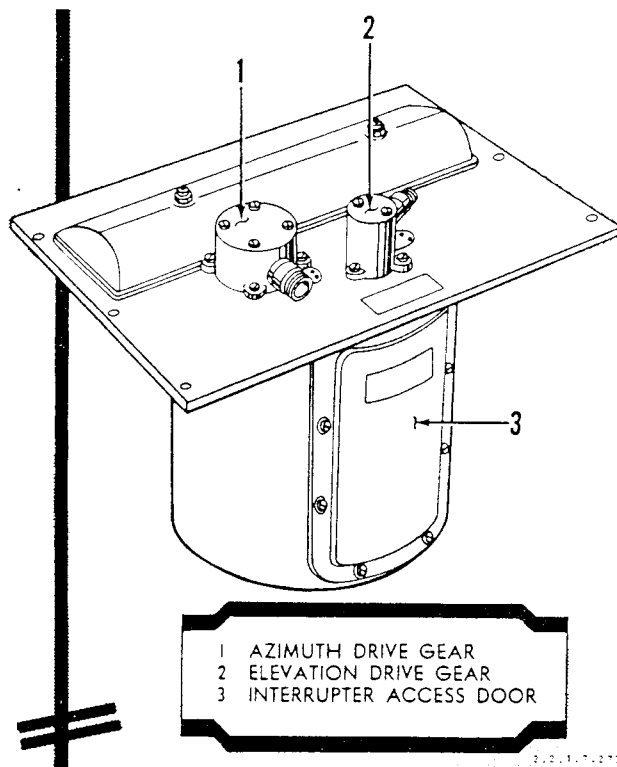

Figure 2-21 Fire Interrupter and Collector Ring Assembly
2-57. COLLECTOR RING ASSEMBLY. Control current is transmitted to the rotating turret by means of a collector ring assembly (figure 2-21), which consists of 26 slip rings, a top plate, brush holders, brushes and the necessary windings. Reverse gearing works against the drive gearing, causing the collector case and brushes to stand still while the slip rings rotate with the turret. The bottom plate of the collector case has one electrical connector, which is the only external electrical connection to the turret. The top plate has electrical connectors to supply power to other turret units.
2-58. FIRE INTERRUPTER ASSEMBLY. Interruption of machine gun fire in areas of wing and empennage surfaces and propeller arcs is accomplished by a fire interrupter assembly (figure 2-21) built around the collector ring. The interrupter consists of a drum with cams (patterns of the areas to be protected) on the outer surface and a moving support which carries two switches. One switch is wired in series with the firing solenoid of each gun. The switches are arranged to move with the cam drum in direct proportion to the movement of the guns in azimuth and elevation. This makes it possible to interrupt individually the fire of each gun.
- Remove access door on collector and interrupter assembly. (See figure 2-21.)